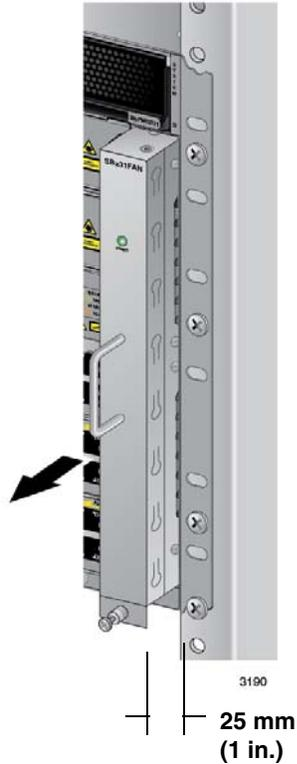

Figure 163. Withdrawing the AT-SBxFAN12 Fan Module 25 mm (1 in.) from the Chassis
7. Slowly pull the module out 25 mm (1 in.). Refer to Figure 163.